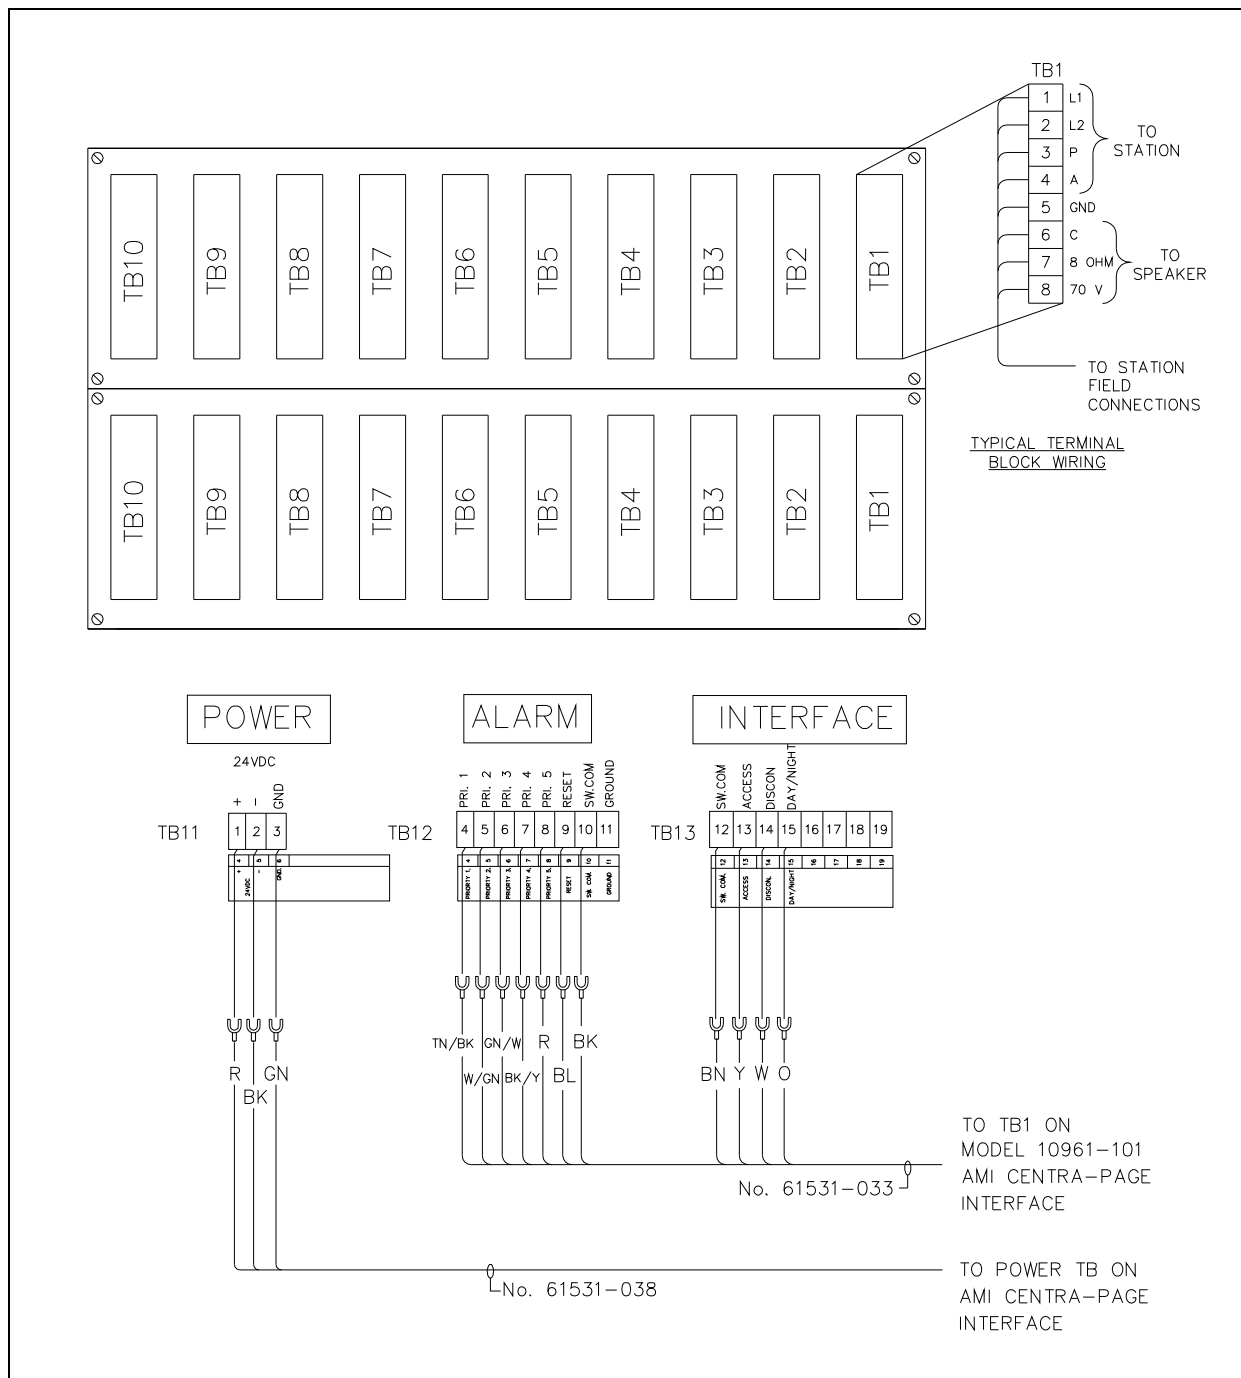
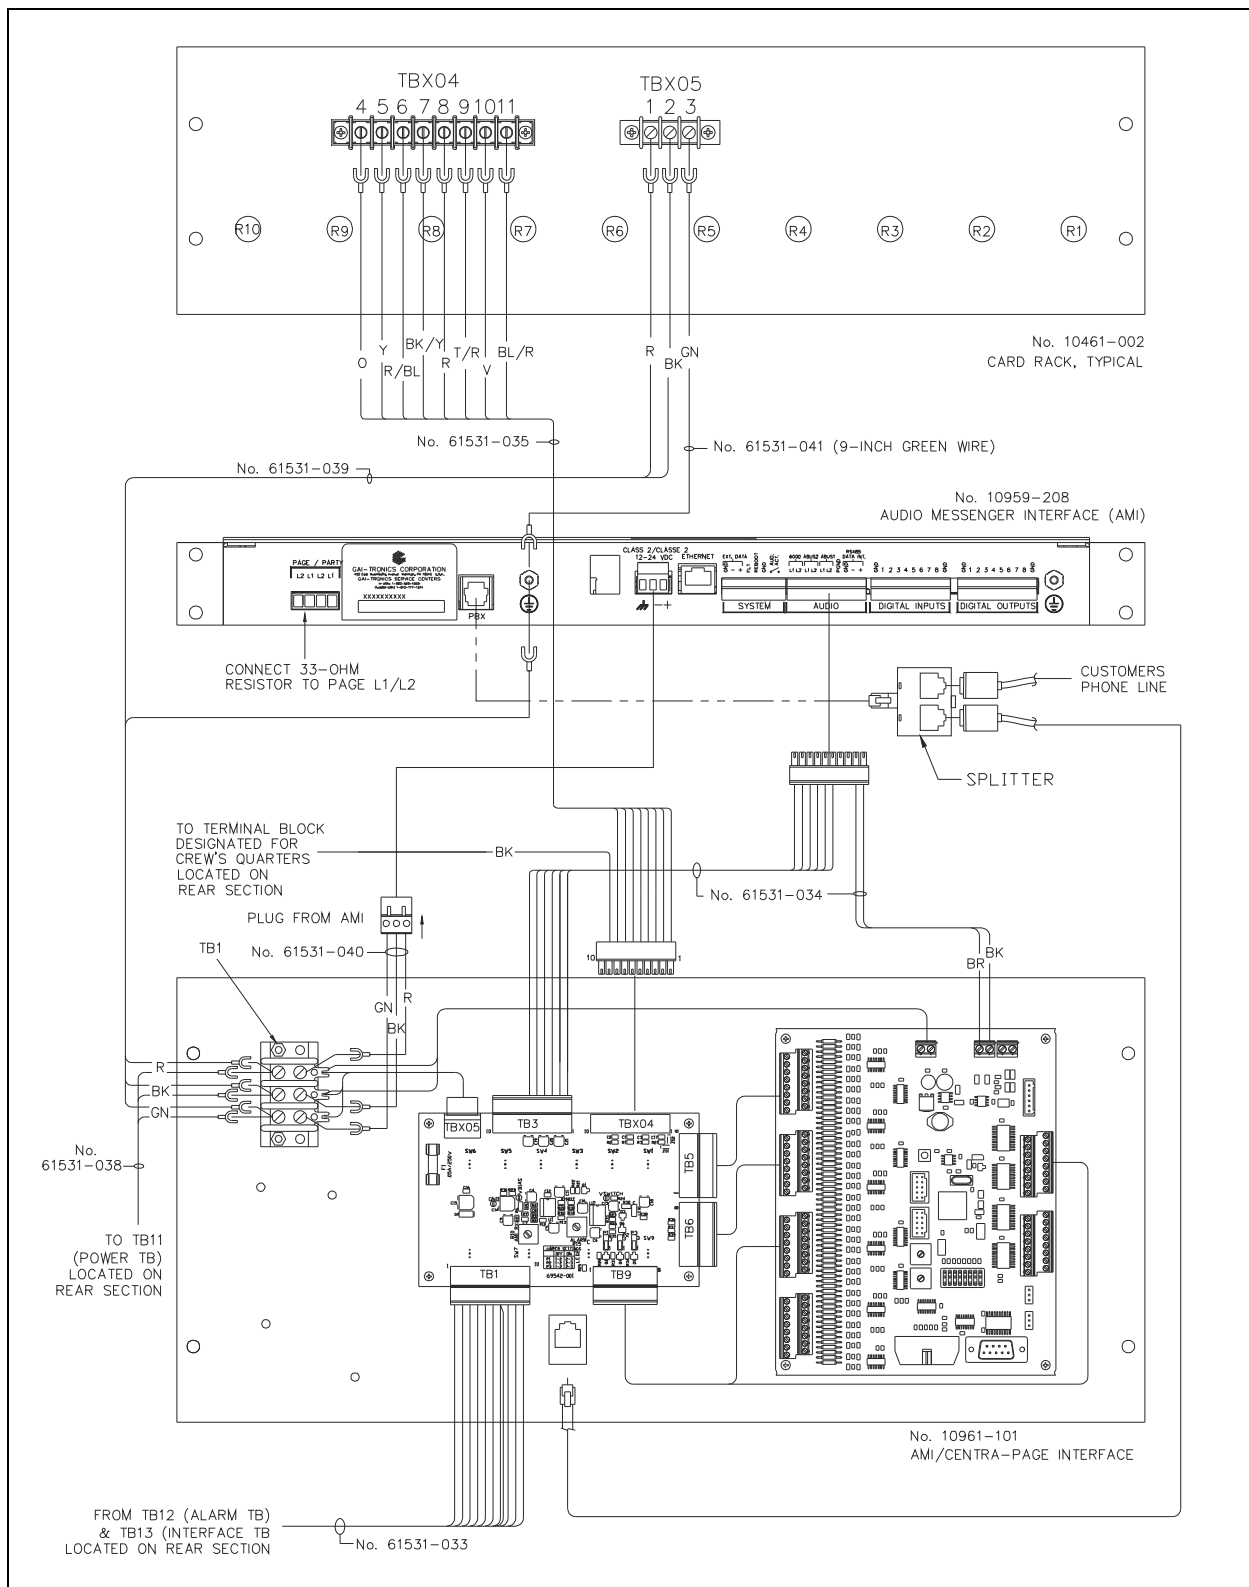
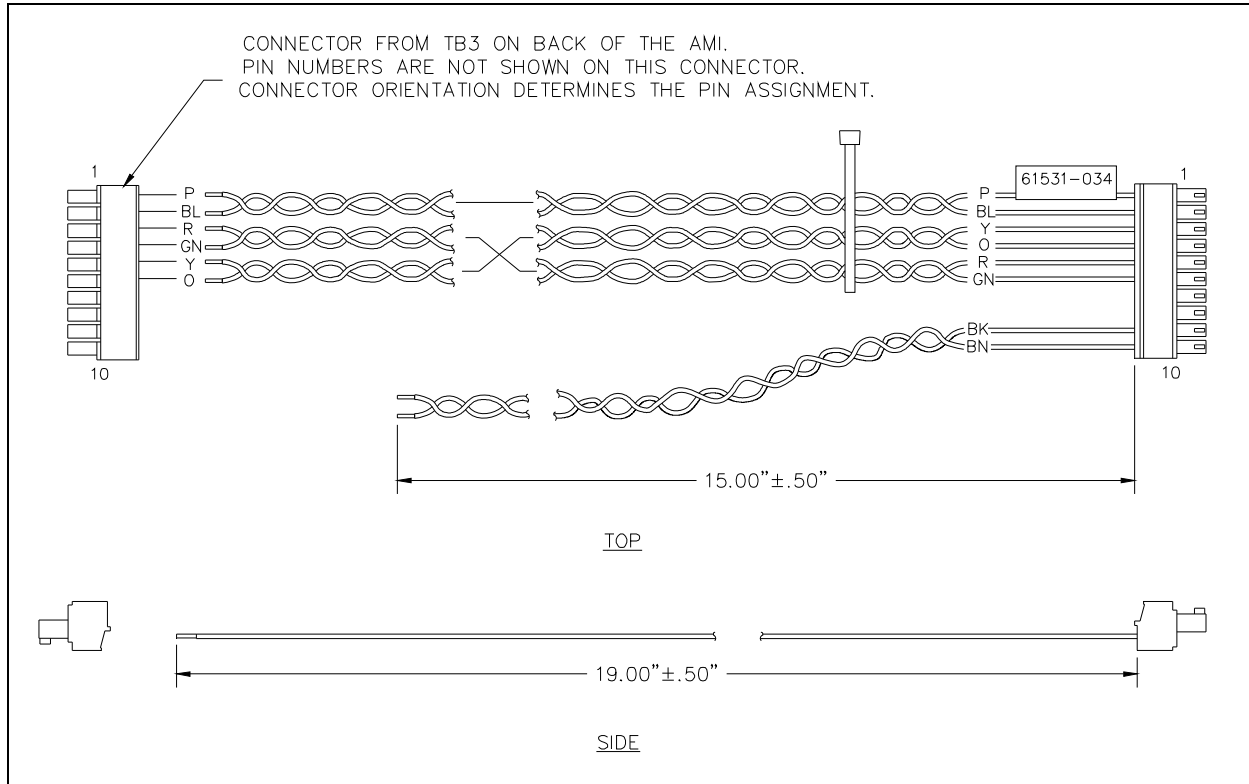

Figure 4. Wiring of Central Cabinet's wall-mounted section
Figure 5. Wiring of the rear of the Central Cabinet's center section
Figure 6. 61531-034 Cable Assembly
- Make all the required wiring connections before mounting the Model 10961-101 AMI Centra-Page Interface. Refer to Figure 4 and Figure 5.
4. Remove TB3 (AUDIO) connector from the back of the AMI. Attach the mating end of the connector to the 61531-034 cable assembly. See Figure 6. Using this 10-position removable terminal block, connect the six wires from positions 1 through 6 of the 61531-034 cable assembly. The brown and black wires from positions 9 and 10 are not connected to this terminal block. Refer to Figure 5.
11. Connect the 61531-038 cable assembly to the central cabinet's TB11 located on the rear panel. See Figure 4.
13. Install the Centra-Page terminal block label beneath TB13 on the central cabinet's rear panel. Connect the 61531-033 cable to the central cabinet's back panel TB12 (ALARM) and TB13 (INTERFACE). Refer to Figure 4.